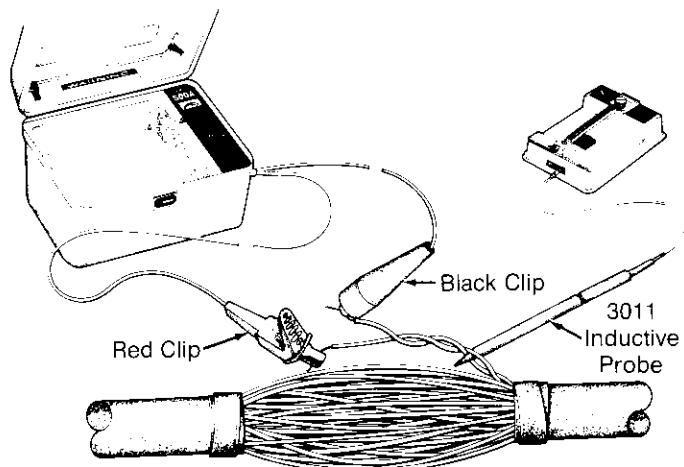

Fig. 15 — Direct Connection for Tone Metallic
- (7) Again test for louder tone on other conductors. If such signal exists, put tone metallic on the pair by cutting the remaining conductor of the test pair and connecting the black lead of the 9012 Direct Connection cable (Fig. 15). Set a reference as in (5) above.